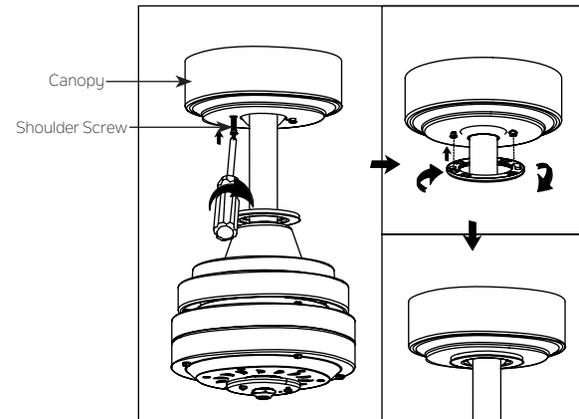

Fig. 16
Step 2. Assemble canopy by rotating key slot in canopy over shoulder screw in mounting bracket. Reinstall the shoulder screw that was previously removed, then retighten two shoulder screws securely.(Fig.16)
Step 3. Securely attach and tighten the canopy hole cover over the shoulder screws in the mounting bracket utilizing the keyslot twist-lock feature. (Fig. 16)